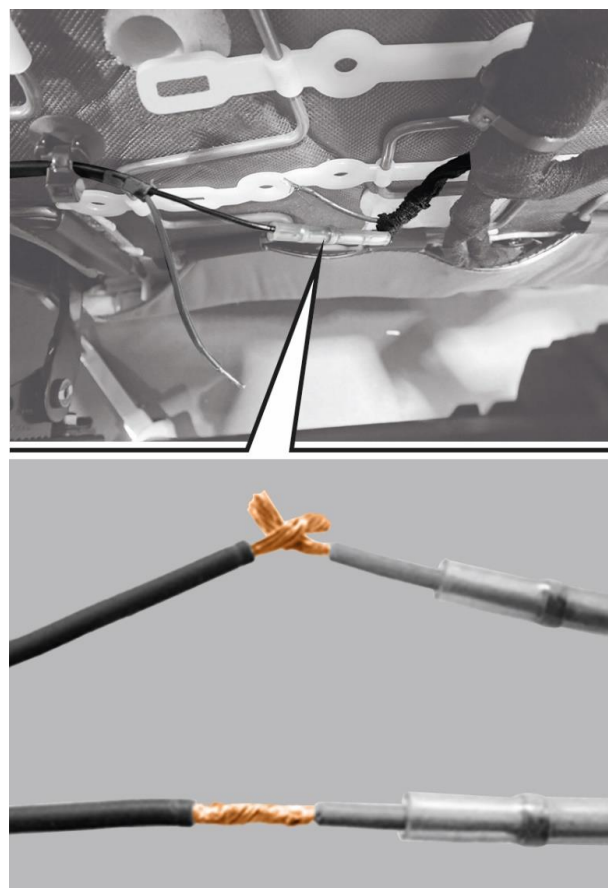

Figure 7 – Strip Wire Insulation
10. Braid the cable strands making sure to ensure the wires are in the same order as they were in the removed connector (Figure 7).